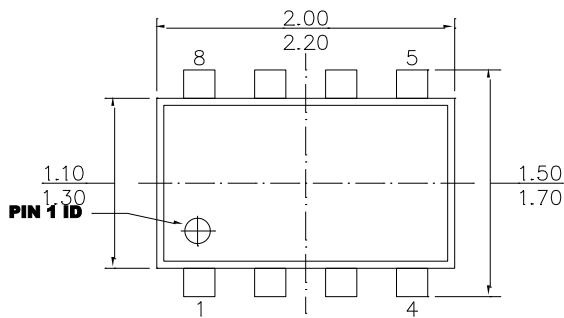

**Figure 9: Typical Application Circuit**
The external resistor divider sets the output voltage (see Figure 9). Select the feedback resistor (R1) that reduces the VOUT leakage current, typically between 100kΩ to 200kΩ. There is no strict requirement on the feedback resistor. Select R1 to be greater than 10kΩ. R2 can then be calculated with Equation (2):